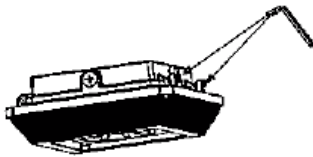

Figure 1-1
1. Disassemble the driver box cover by loosen the two screws on the driver box: Figure 1-1